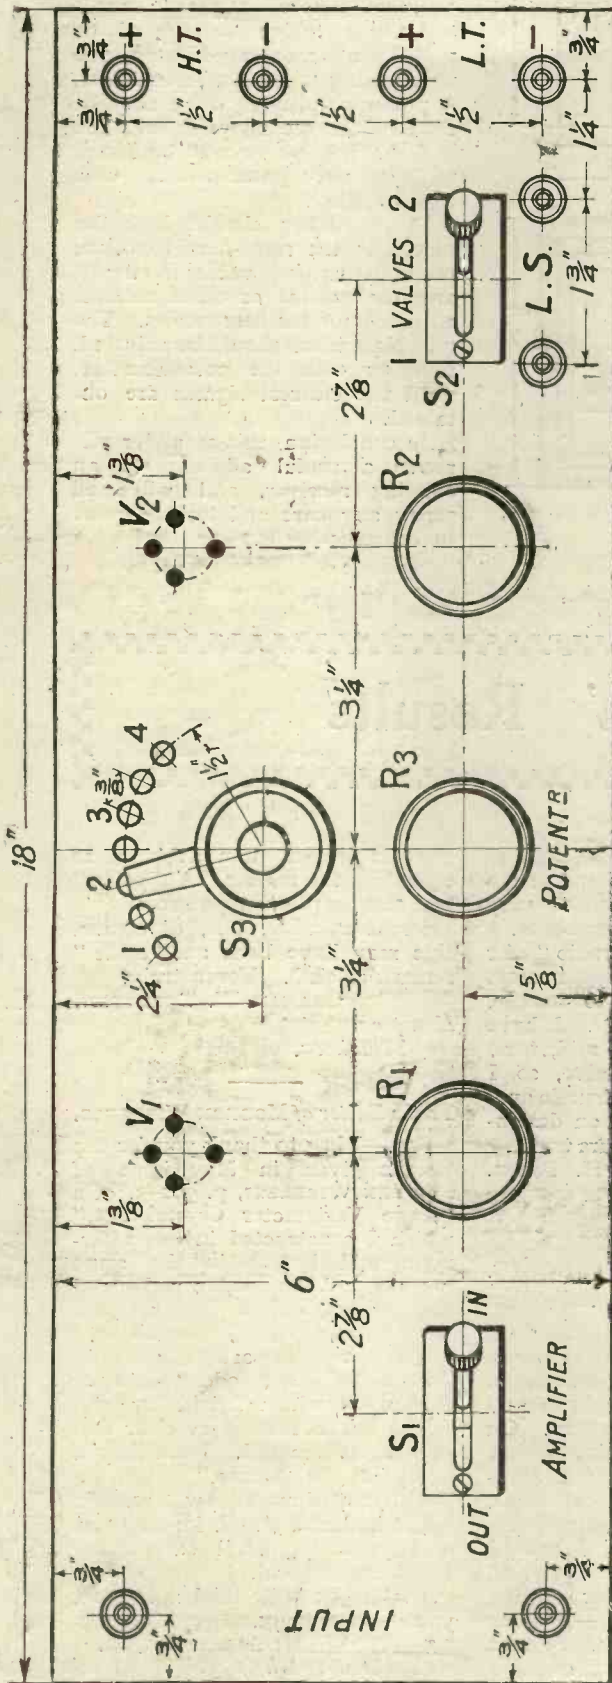

Fig. 5.—A scale drawing of the top of the panel showing the layout of the parts. (Blueprint No. 52 A.)
Fig. 5 is a drawing showing the lay-out of the various parts upon the panel, and sufficient dimensions are given to enable all the necessary holes to be drilled.
H.T. and L.T. batteries to terminals marked in Fig. 5.
Telephones or loud-speaker to terminals marked in Fig. 5.